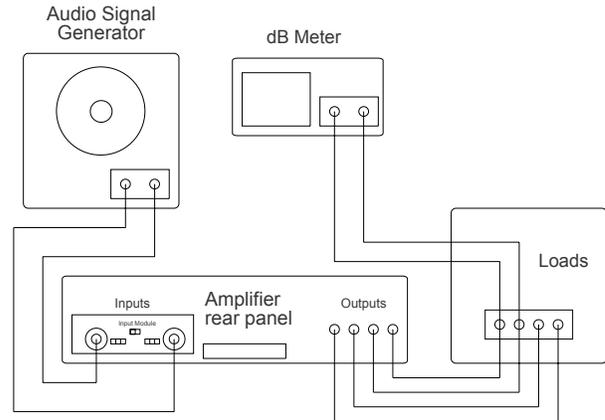

Figure 12. Amplifier Test Setup Diagram
2. Set up the amplifier under test as shown in the Test Setup Diagram, Figure 12.